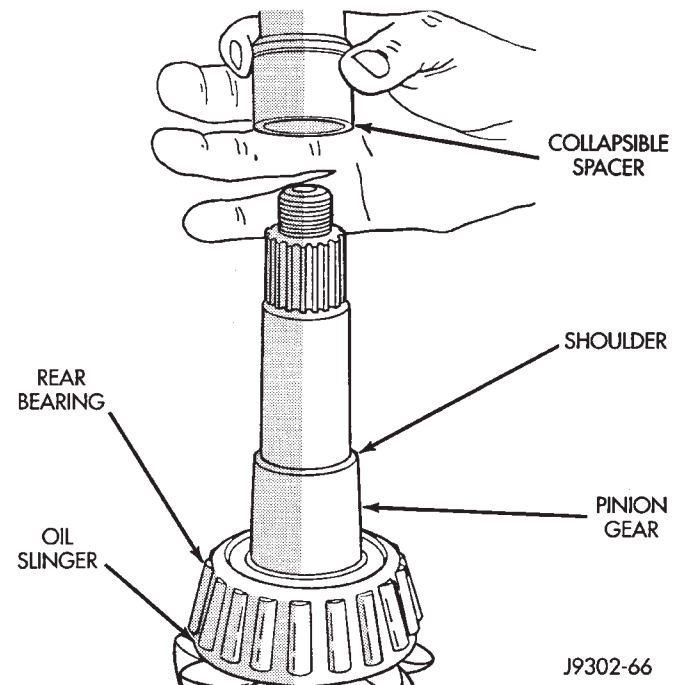
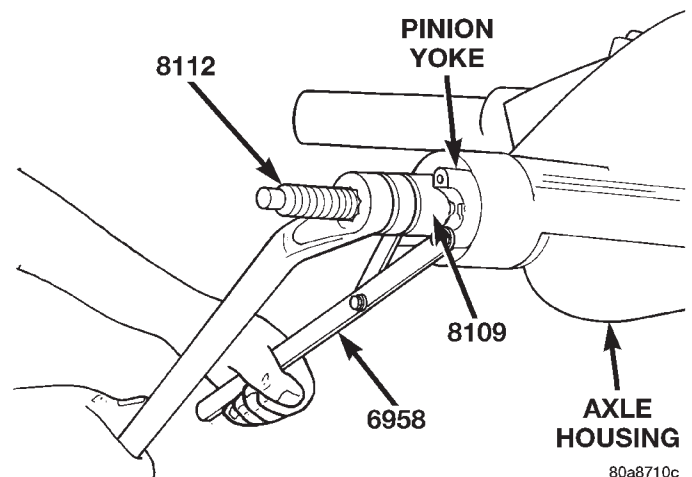

Fig. 56 Collapsible Preload Spacer
Fig. 57 Pinion Yoke Installation
(9) Install a new collapsible preload spacer on pinion shaft and install pinion gear in housing (Fig. 56).
(10) Install pinion gear in housing.
(11) Install yoke with Installer Screw 8112, Cup 8109, and holder 6958 (Fig. 57).
(12) Install the yoke washer and a new nut on the pinion gear and tighten the pinion nut until there is zero bearing end-play.
(13) Tighten the nut to 271 N·m (200 ft. lbs.).